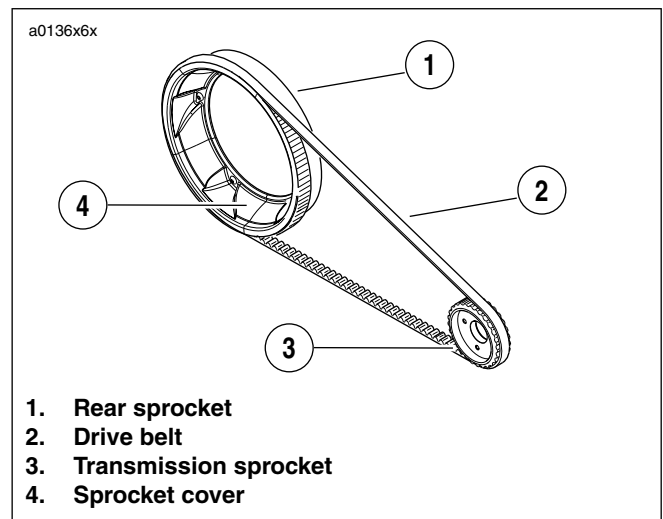

Figure 1-18. Drive Belt Assembly
1. See **Figure 1-18**. Inspect each tooth of rear sprocket for: